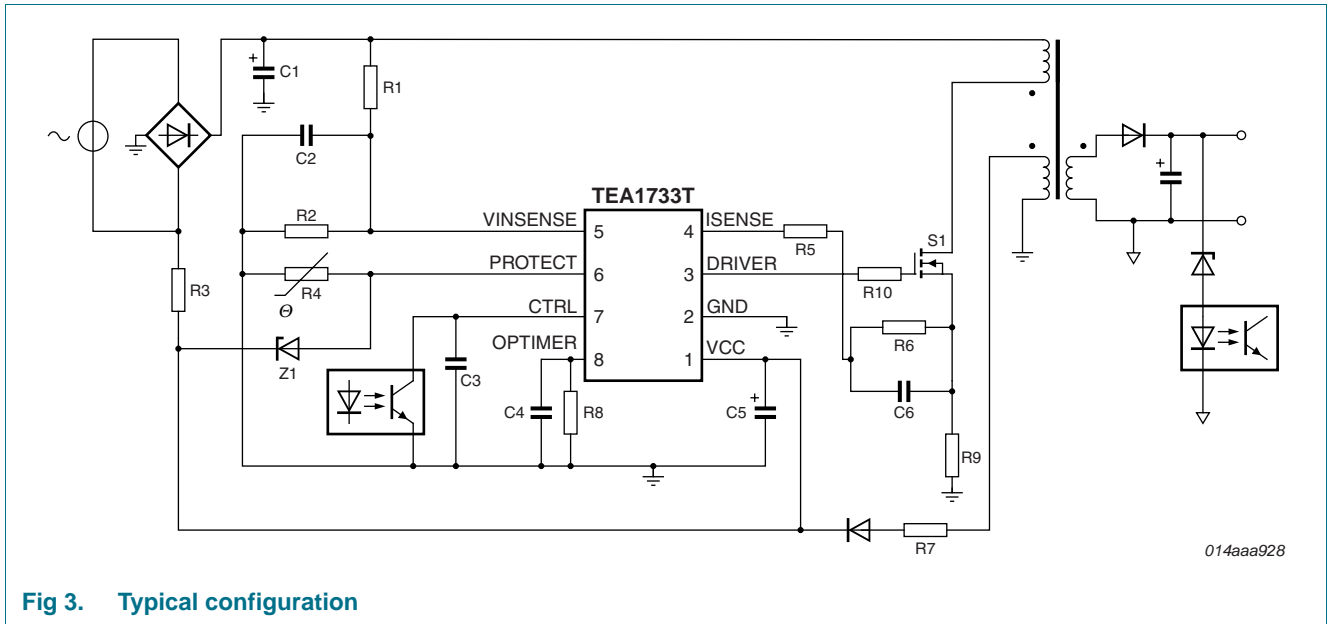
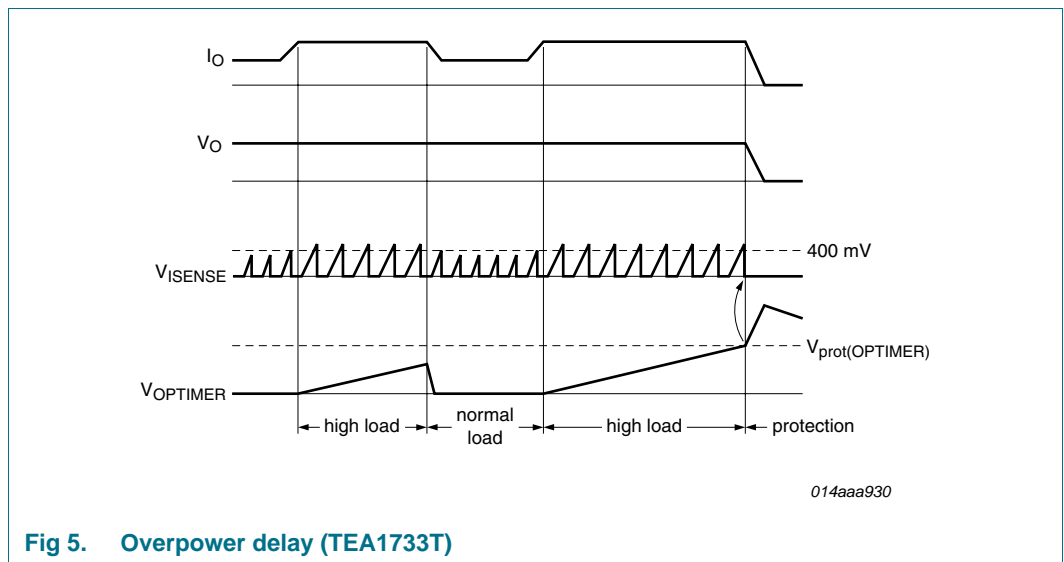
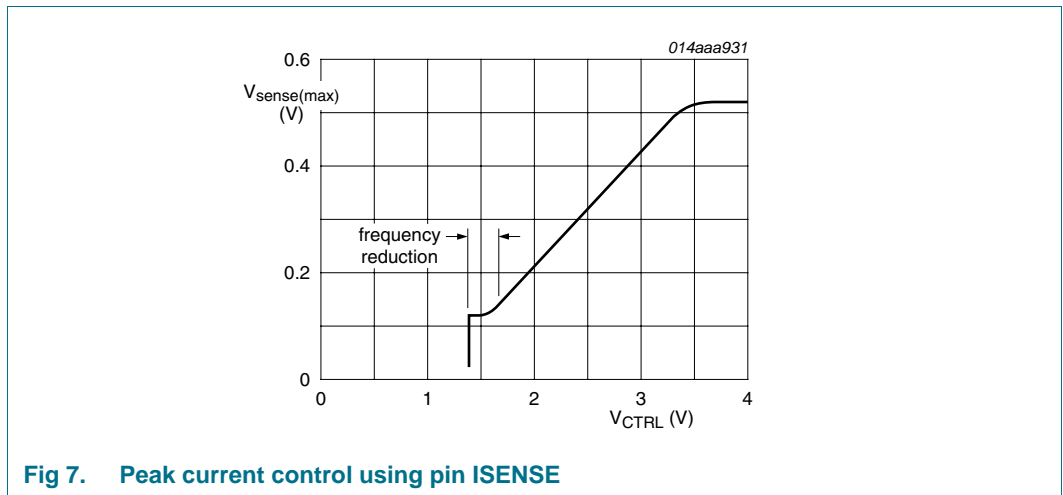
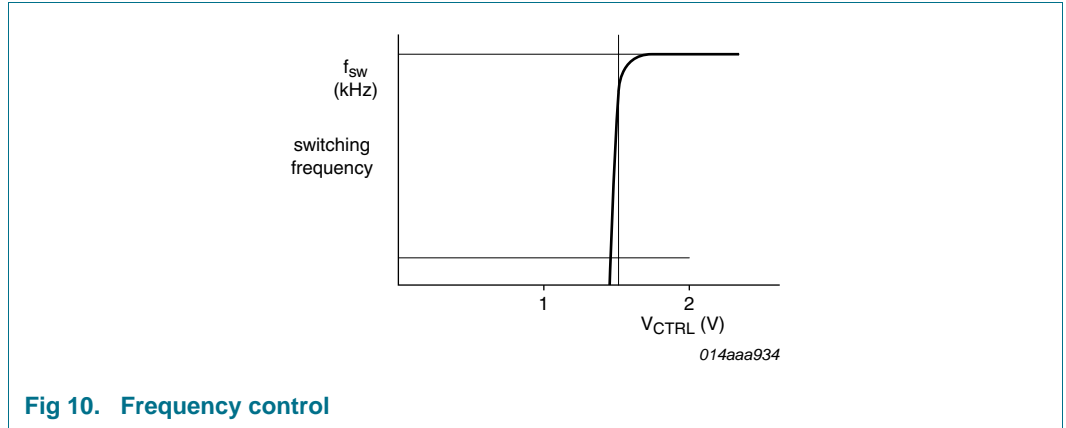

Fig 3. Typical configuration
Fig 5. Overpower delay (TEA1733T)
Fig 7. Peak current control using pin ISENSE
Fig 10. Frequency control
The TEA1733(L) contains a flyback circuit controller, a typical configuration of which is shown in Figure 3.
If the OPTIMER pin is connected to capacitor C4 (see Figure 3), a temporary overload situation is allowed. $V_{ctrl(I_{peak})}$ (see Figure 1) is set by the CTRL. When $V_{ctrl(I_{peak})}$ is above 400 mV, the $I_{IO(OPTIMER)}$ current (11 μA typical) is sourced from the OPTIMER pin. If the voltage on the OPTIMER pin reaches the $V_{prot(OPTIMER)}$ voltage (2.5 V typical) the OverPower Protection (OPP) is triggered (see Figure 5).
The primary current is sensed by the ISENSE pin across an external resistor R9 (see Figure 3) and compared with an internal reference voltage. The internal reference voltage is proportional to the CTRL pin voltage (see Figure 7).
A soft start is made to prevent audible noise during start-up or a restart condition. Before the converter starts, the soft start capacitor C6 (see Figure 3) on the ISENSE pin is charged. When the converter starts switching, the primary peak current slowly increases as the soft start capacitor discharges through the soft start resistor (R6, see Figure 3).
In low power operation switching losses are reduced by lowering the switching frequency. The converter switching frequency is reduced and the peak current is set to 25 % of the maximum peak current (see Figure 7 and Figure 10).